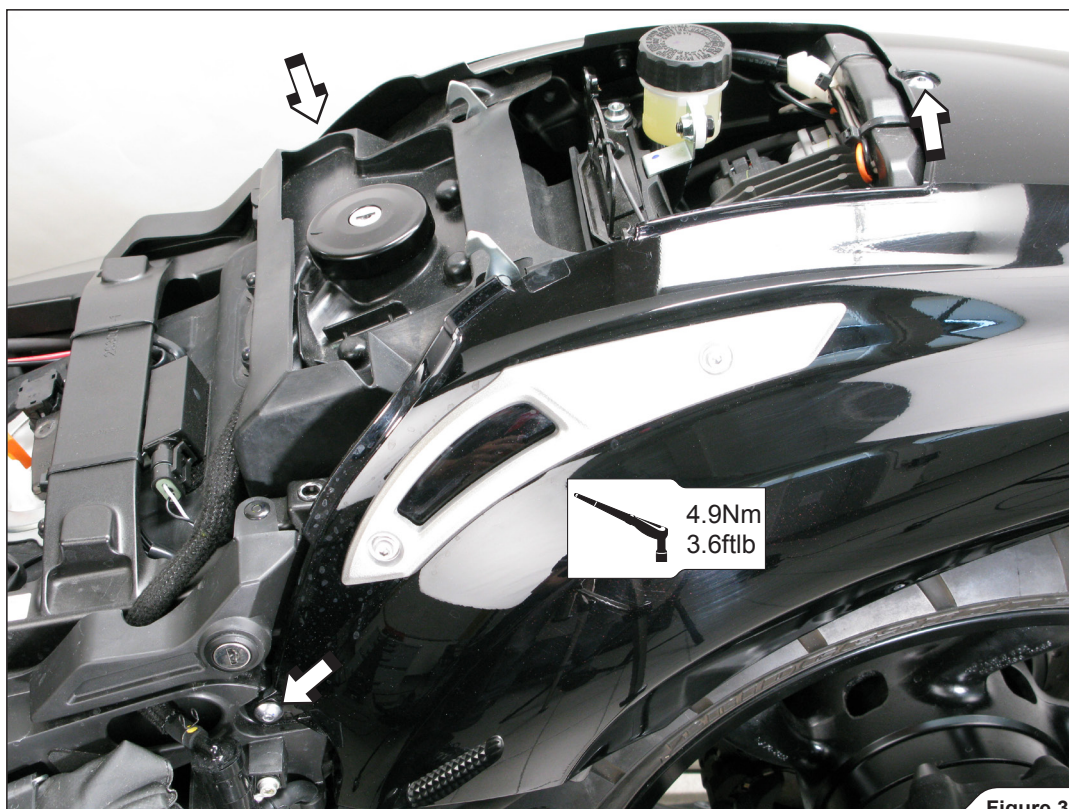

Figure 38
13. For OPEN SLIP-ON only: attach the seat cowling, seat panels, seats in the reverse order from the order in which they were removed (Figure 38, 39, 40, 41).